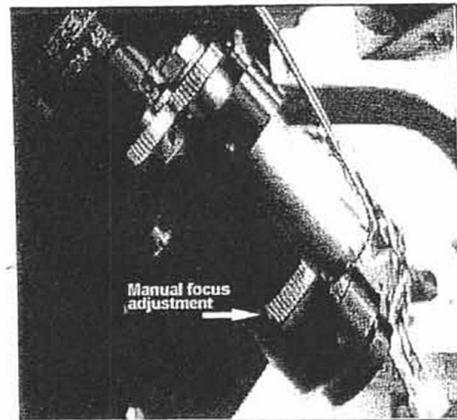

Figure 4: Manual focus system
- Optics column focus adjustment. (fig. 4,5)
The stylus will now be commanded down. Changing the system probably resulted in a new tower setting to achieve focus, so, a new null (see explanation for "null" below) will have to be established via the Z-axis micrometer. If the stylus/sample image needs to be re-focused after the new null has been found, the optics column ring will be used to focus (small adjustment). See figures 4 and 5.